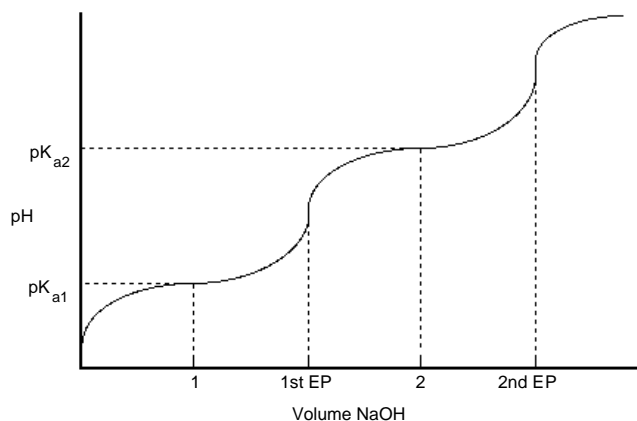

Figure 4
Thus, the pH value at the first half-titration volume, Point 1 in Figure 4, is equal to the pK_{a1} value. The first half-titration point volume can be found by dividing the first equivalence point volume by two. Similarly, the pH value at the second titration point, is equal to the pK_{a2} value. The second half-titration volume (Point 2 in Figure 4) is midway between the first and second equivalence point volumes (1st EP and 2nd EP).
1. On your graph of the titration curve, draw reference lines similar to those shown in Figure 4. Start with the first half-titration point volume (Point 1) and the second half-titration point volume (Point 2). Determine the pH values on the vertical axis that correspond to each of these volumes. Estimate these two pH values to the nearest 0.1 pH unit. These values are the pK_{a1} and pK_{a2} values, respectively. (Note: See if there are volume values in your data table similar to either of the half-titration volumes in Step 1. If so, use their pH values to confirm your estimates of pK_{a1} and pK_{a2} from the graph.)